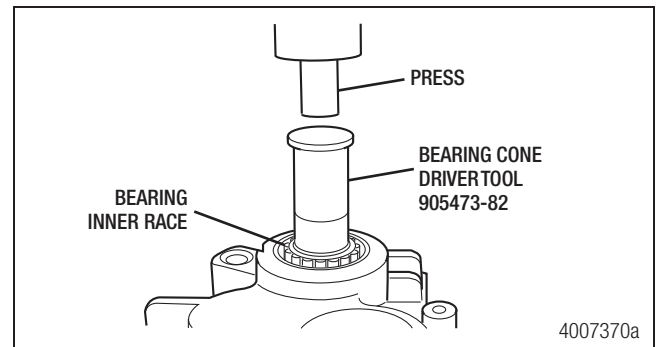

Figure 7.21
- Use a bearing cone driver, tool number 905473-82, and a press to press the bearing down on the shaft until it is fully seated. Press only on the inner race of the bearing during installation. Figure 7.21.